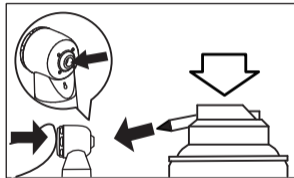

Fig. 11
- 2) Lubricate the chuck directly through the bur insertion hole. (Fig. 11)